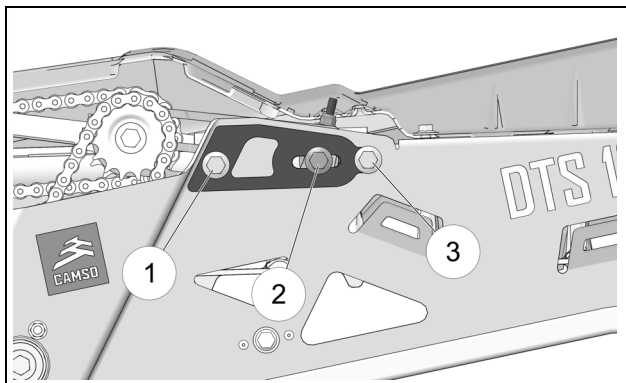

Figure 12
- Re-tighten chain tensioner mounting bolts (1), (2) and (3) to 90 N-m [67 lb-ft] of torque. See Figure 12.